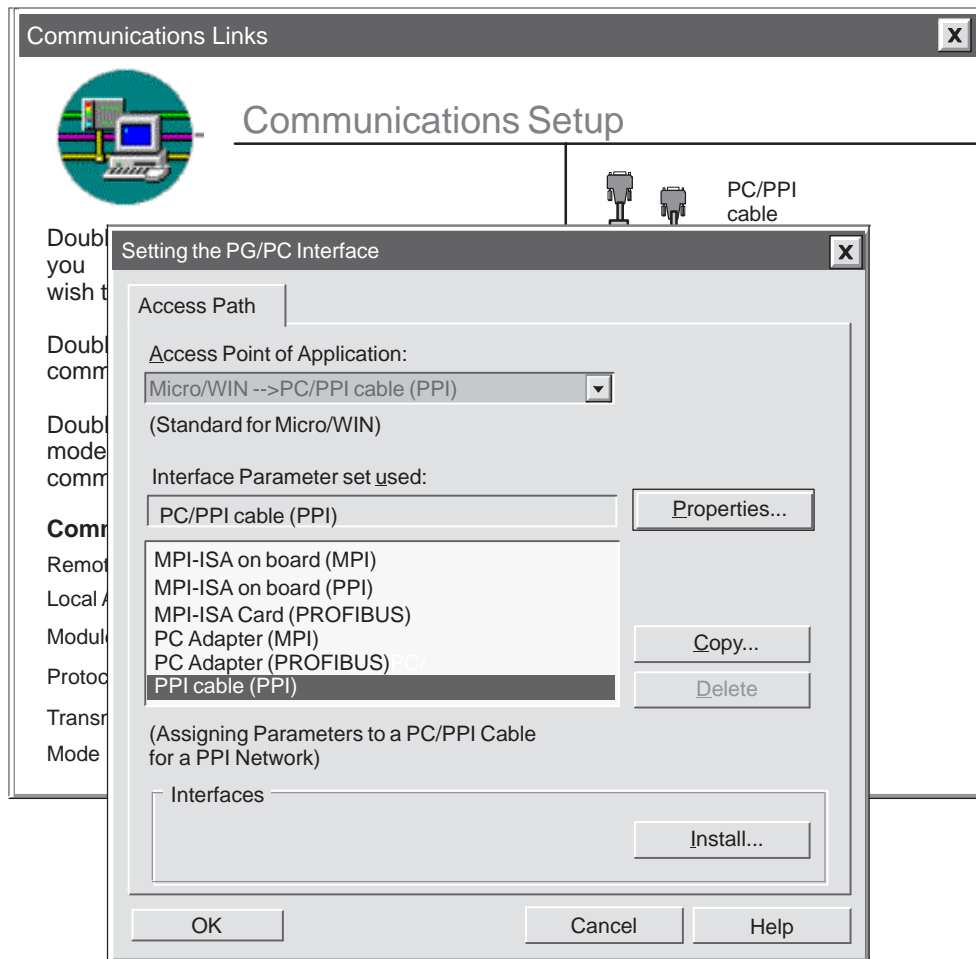

Figure 3-3 Setting the PG/PC Interface Dialog Box
2. In the Communications Setup dialog box, double-click on the icon for the PC/PPI cable. The Setting the PG/PC Interface dialog box appears. See Figure 3-3.